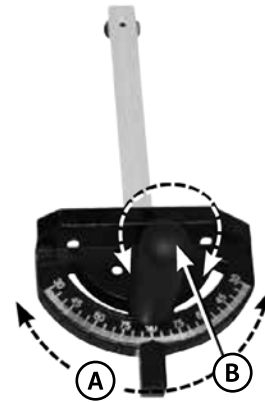

FIGURE 24: MITRE GAUGE
To set the mitre gauge to an angle other than 90°, loosen the **HANDLE (B)** by turning it counter-clockwise. Rotate the **MITRE HEAD (A)** to your desired angle as indicated on the scale. Then tighten the **HANDLE (B)** by turning it clockwise. See Figure 24.